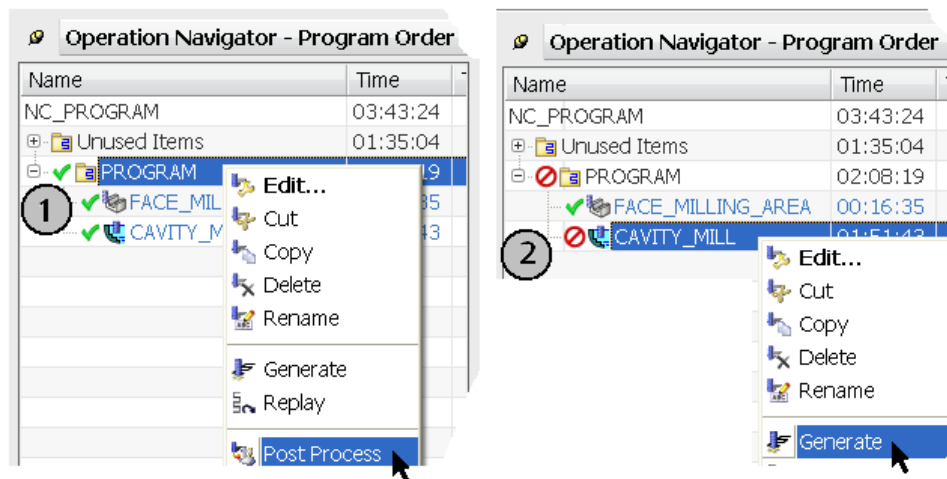

Figure 8.1 Code generation and tool path recalculation
2. From the *Operation Navigator* position — click *MB3* on the folder's name — here *PROGRAM* — and select the *Post Process* option — figure 8.1 (1).
3. After generating the code, pay attention to the *green* markers, located close to the operation icons – figure 8.1 (1).
5. The **red** marker will appear close to the operation (a crossed-out circle) — figure 8.1 (2).